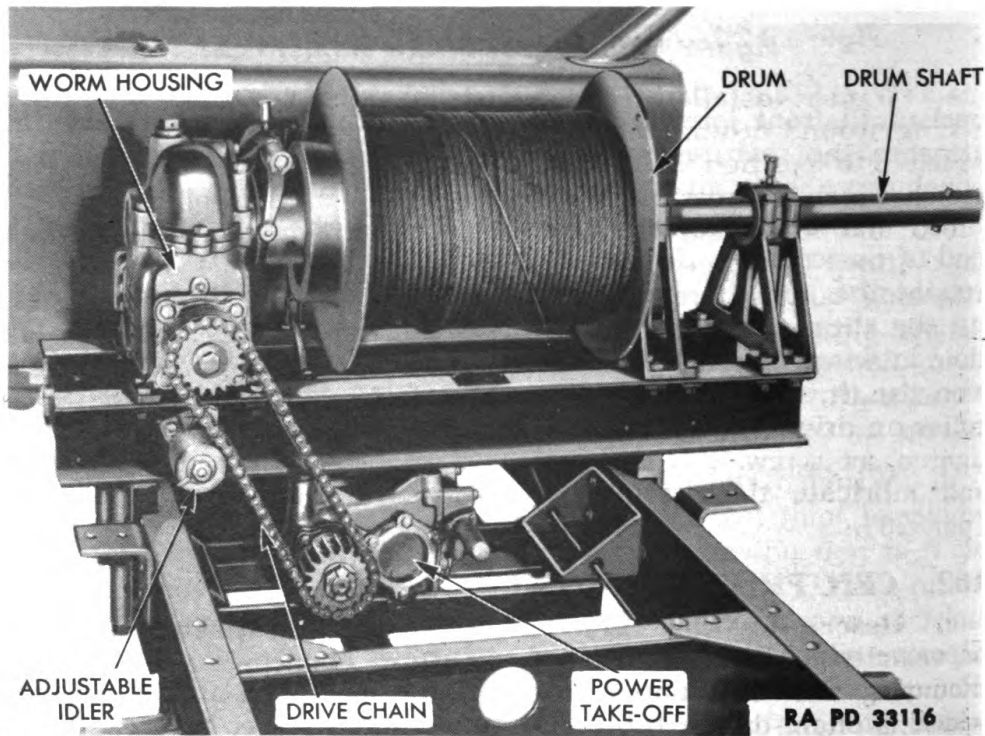

Figure 122—Center-mounted Winch
a. **Description** (fig. 122). The center-mounted winch is used only on vehicles equipped for telephone service. The winch assembly with mounting sills is mounted on the frame just back of the cab. The winch is chain-driven from a frame-mounted power take-off that is driven by the transfer case through a short drive shaft. The power take-off provides a forward and a reverse gear.